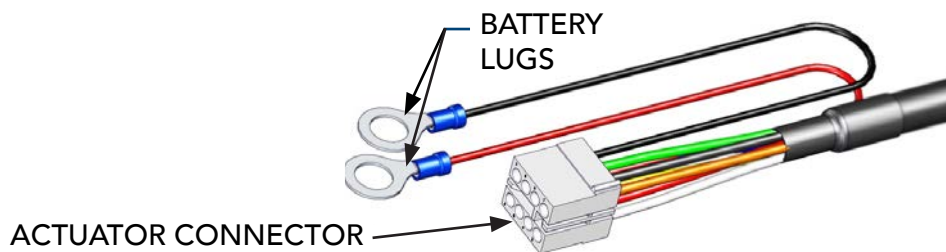

FIGURE 8-2: 816 EXISTING CONNECTOR & BATTERY LEADS ON 816 ACTUATOR CABLE
3. Locate the MASTER and SLAVE input connectors on the 636 control board per FIGURE 8-2.